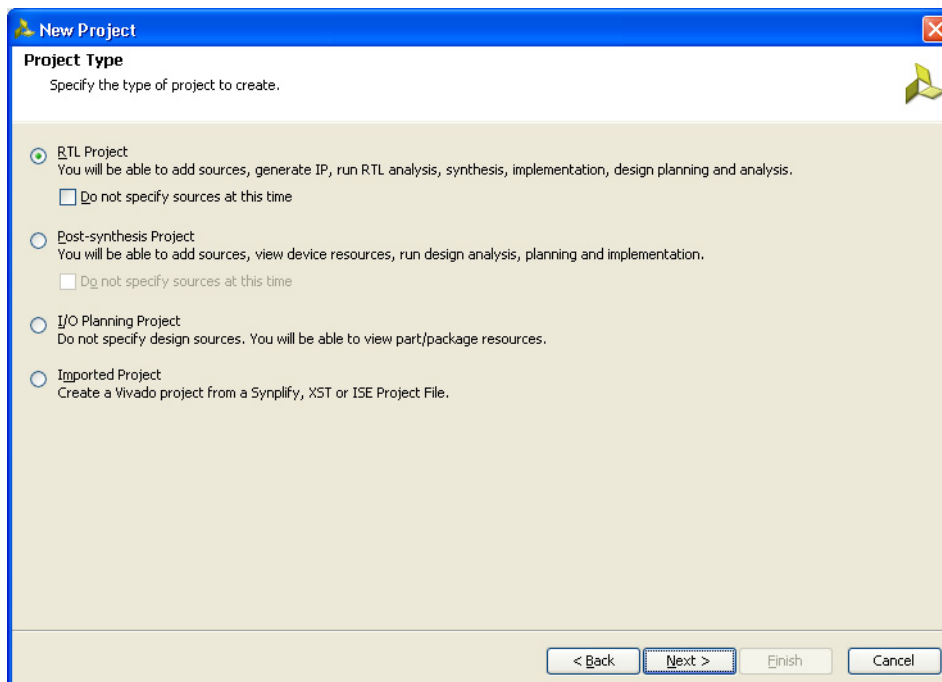

Figure 1-4: Project Type
4. Click **Next** to proceed to the Project Type page (Figure 1-4). Select the Project Type as RTL Project because MIG deliverables are RTL files.